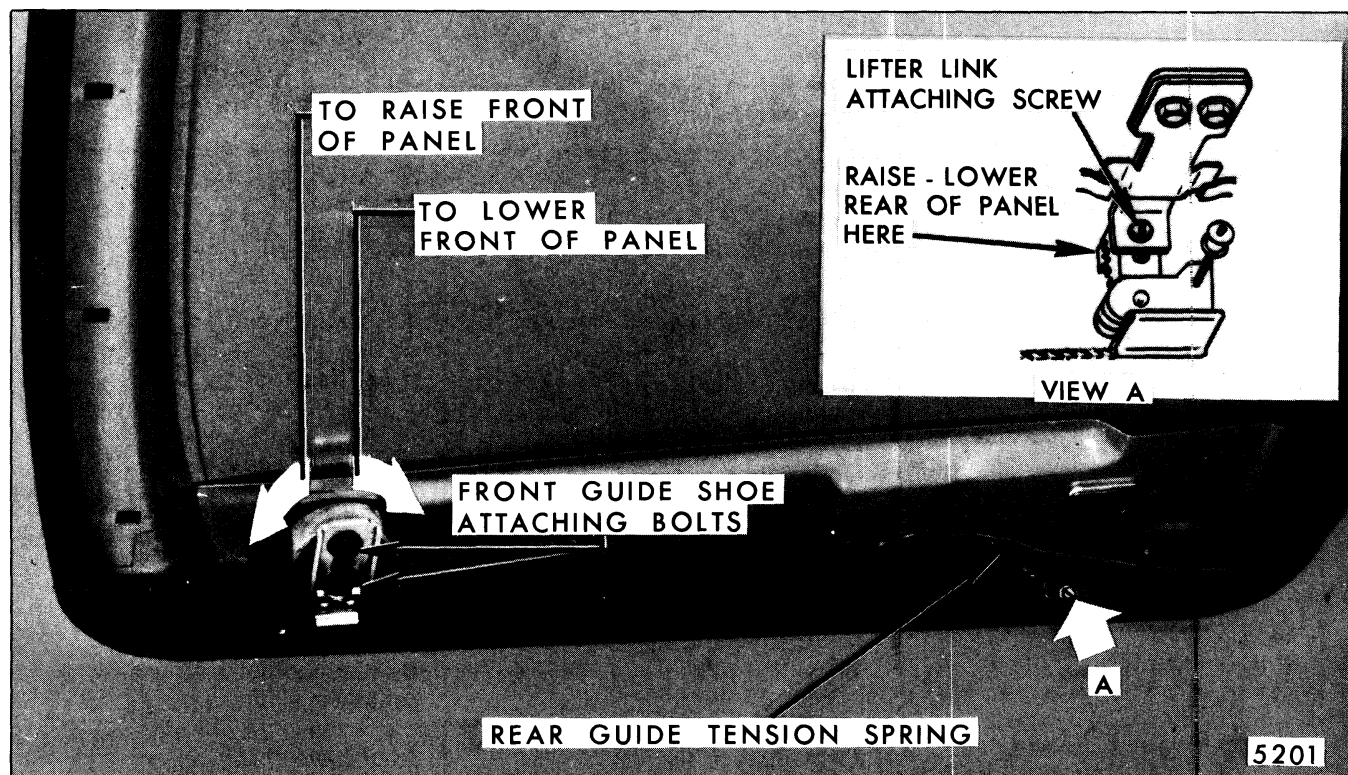

Fig. 8-44-Sunroof Panel Vertical Adjustment Provisions
1. To obtain a flush fit with the roof, loosen 2 bolts on the front guide shoes (Fig. 8-44).
2. Turn front guide adjusting nut clockwise to lower roof panel and counterclockwise to lift panel (Fig. 8-44).
1. To obtain a flush fit with the roof, loosen attaching screw on lifter link (View "A", Fig. 8-44).
2. Raise or lower panel to desired height using serrations provided on lifter link (View "A", Fig. 8-44).